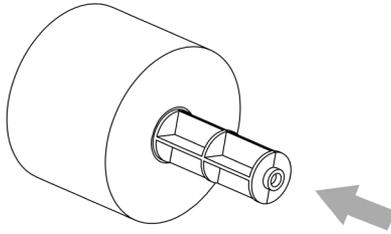

Figure 2.4.3
3. Load the paper roll onto the paper roll spool, and put the paper roll spool into the paper housing, as shown in figures 2.4.3 and 2.4.4.